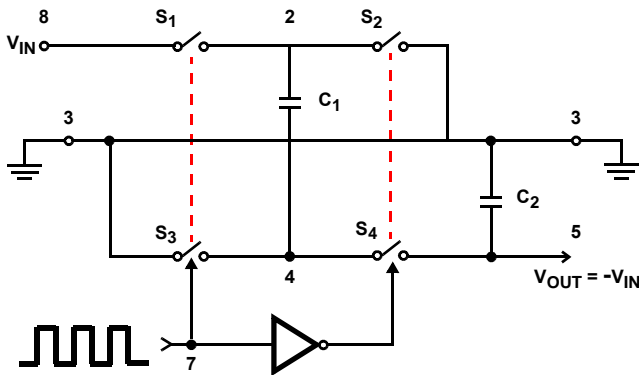
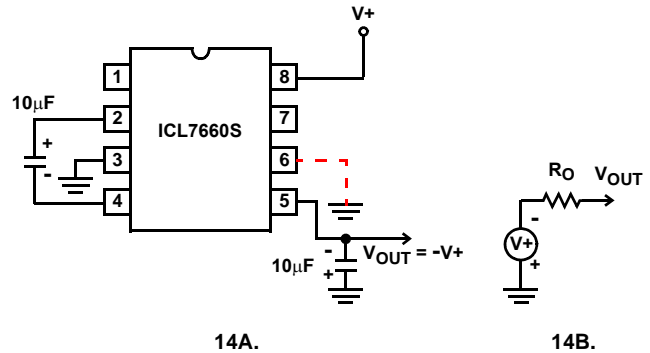
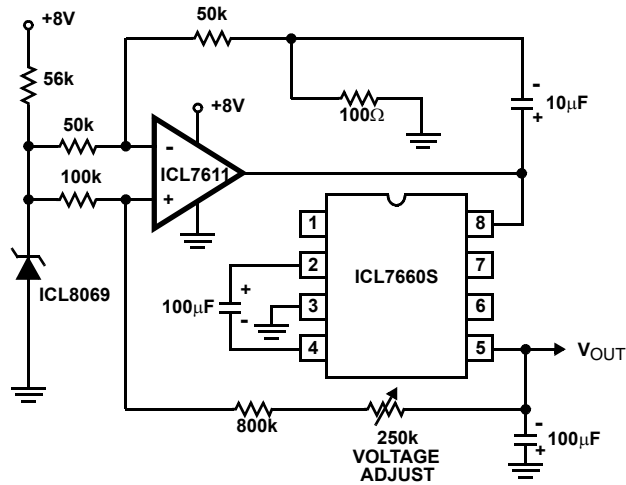

FIGURE 13. IDEALIZED NEGATIVE VOLTAGE CONVERTER
FIGURE 14. SIMPLE NEGATIVE CONVERTER AND ITS OUTPUT EQUIVALENT
FIGURE 20. REGULATING THE OUTPUT VOLTAGE
The ICL7660S contains all the necessary circuitry to complete a negative voltage converter, with the exception of 2 external capacitors which may be inexpensive 10 μ F polarized electrolytic types. The mode of operation of the device may be best understood by considering Figure 13, which shows an idealized negative voltage converter. Capacitor C_1 is charged to a voltage, $V+$, for the half cycle when switches S_1 and S_3 are closed. (Note: Switches S_2 and S_4 are open during this half cycle.) During the second half cycle of operation, switches S_2 and S_4 are closed, with S_1 and S_3 open, thereby shifting capacitor C_1 to C_2 such that the voltage on C_2 is exactly $V+$, assuming ideal switches and no load on C_2 . The ICL7660S approaches this ideal situation more closely than existing non-mechanical circuits.
In the ICL7660S, the 4 switches of Figure 13 are MOS power switches; S_1 is a P-Channel devices and S_2 , S_3 and S_4 are N-Channel devices. The main difficulty with this
where V_1 and V_2 are the voltages on C_1 during the pump and transfer cycles. If the impedances of C_1 and C_2 are relatively high at the pump frequency (refer to Figure 13) compared to the value of R_L , there will be substantial difference in the voltages V_1 and V_2 . Therefore it is not only desirable to make C_2 as large as possible to eliminate output voltage ripple, but also to employ a correspondingly large value for C_1 in order to achieve maximum efficiency of operation.
The majority of applications will undoubtedly utilize the ICL7660S for generation of negative supply voltages. Figure 14 shows typical connections to provide a negative supply where a positive supply of +1.5V to +12V is available. Keep in mind that pin 6 (LV) is tied to the supply negative (GND) for supply voltage below 3.5V.
The output characteristics of the circuit in Figure 14 can be approximated by an ideal voltage source in series with a resistance as shown in Figure 14B. The voltage source has a value of $-(V^+)$. The output impedance (R_O) is a function of the ON resistance of the internal MOS switches (shown in Figure 13), the switching frequency, the value of C_1 and C_2 , and the ESR (equivalent series resistance) of C_1 and C_2 . A good first order approximation for R_O is:
The ICL7660S may be employed to achieve positive voltage doubling using the circuit shown in Figure 20. In this application, the pump inverter switches of the ICL7660S are used to charge C_1 to a voltage level of $V^+ - V_F$ (where V^+ is the supply voltage and V_F is the forward voltage on C_1 plus the supply voltage (V^+) is applied through diode D_2 to capacitor C_2 . The voltage thus created on C_2 becomes $(2V^+) - (2V_F)$ or twice the supply voltage minus the combined forward voltage drops of diodes D_1 and D_2 .
Figure 21 combines the functions shown in Figure 14 and Figure 20 to provide negative voltage conversion and positive voltage doubling simultaneously. This approach would be, for example, suitable for generating +9V and -5V from an existing +5V supply. In this instance capacitors C_1 and C_3 perform the pump and reservoir functions respectively for the generation of the negative voltage, while capacitors C_2 and C_4 are pump and reservoir respectively for the doubled positive voltage. There is a penalty in this configuration which combines both functions, however, in that the source impedances of the generated supplies will be somewhat higher due to the finite impedance of the common charge pump driver at pin 2 of the device.